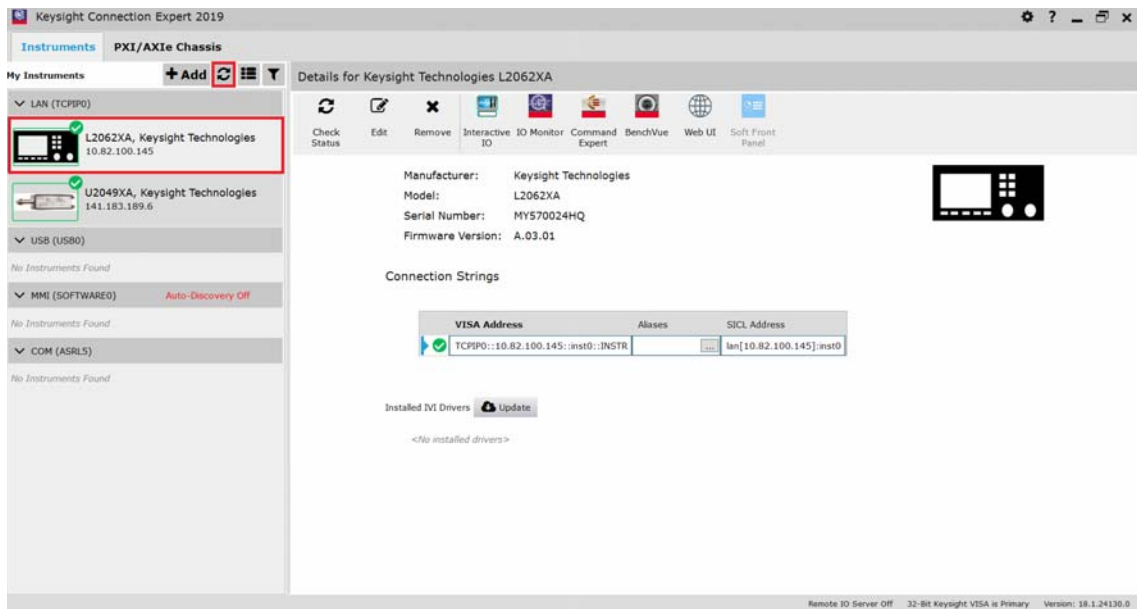

Figure 1-18 Auto-locate a LAN instrument in Keysight Connection Expert via Static IP
- 6** Go to **Start > All Programs > IO Control** () to launch Keysight Connection Expert application. Click **Start a Scan for connected instruments** to auto-locate the sensor as shown in **Figure 1-18**.